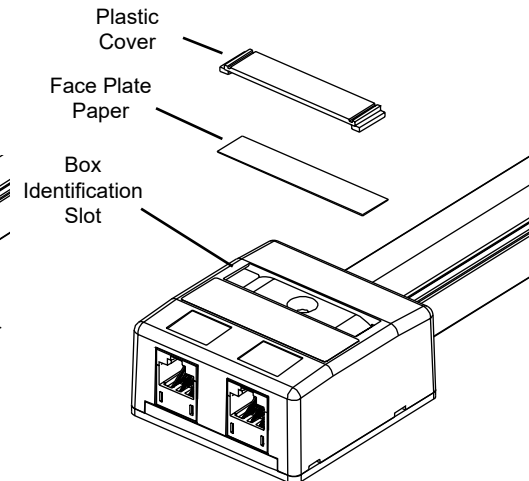

Figure 7
7. For 2-Port boxes only, insert face plate paper and clear plastic cover into box identification label slots. Optionally, laser printable adhesive port labels can be used to identify each port. See Figure 7.